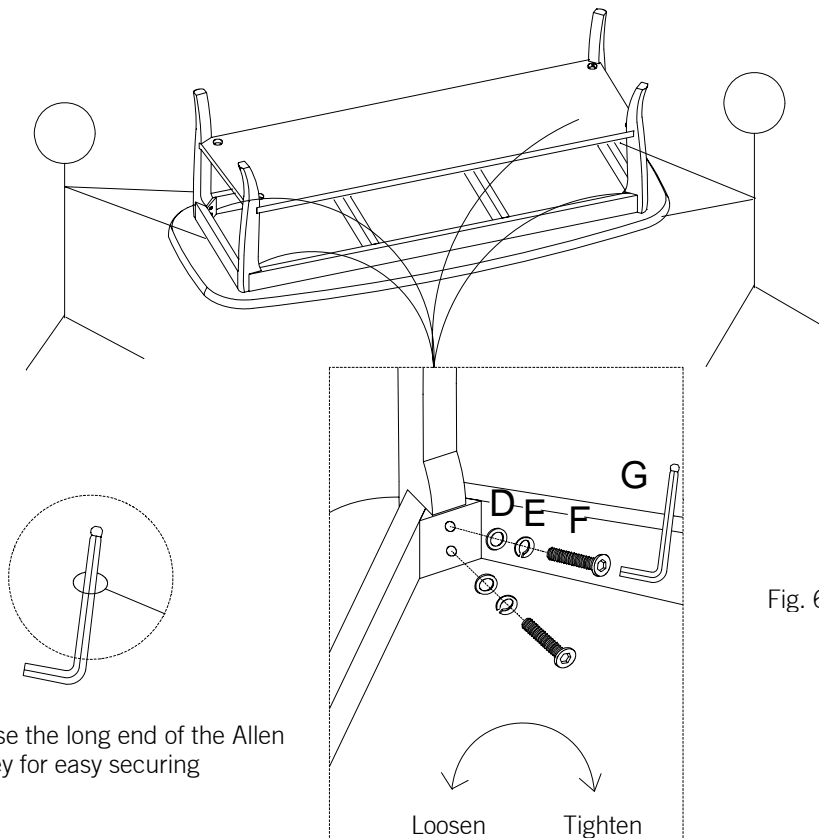

Fig. 6
6. Insert a lock washer (E) and a flat washer (D) into Allen bolts (F). Insert bolts with washers through the pre-drilled corner holes of the tabletop (A) and into the legs (C). Use hand to screw half way then secure using the Allen key (G). (Fig. 6)